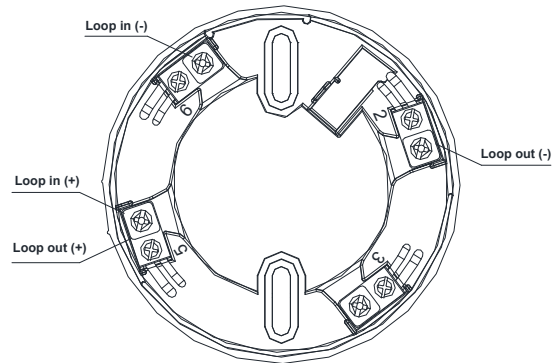

Fig. 1: Loop isolator wiring connections
2. Connect the conductors to the base terminals as shown in Fig. 1.